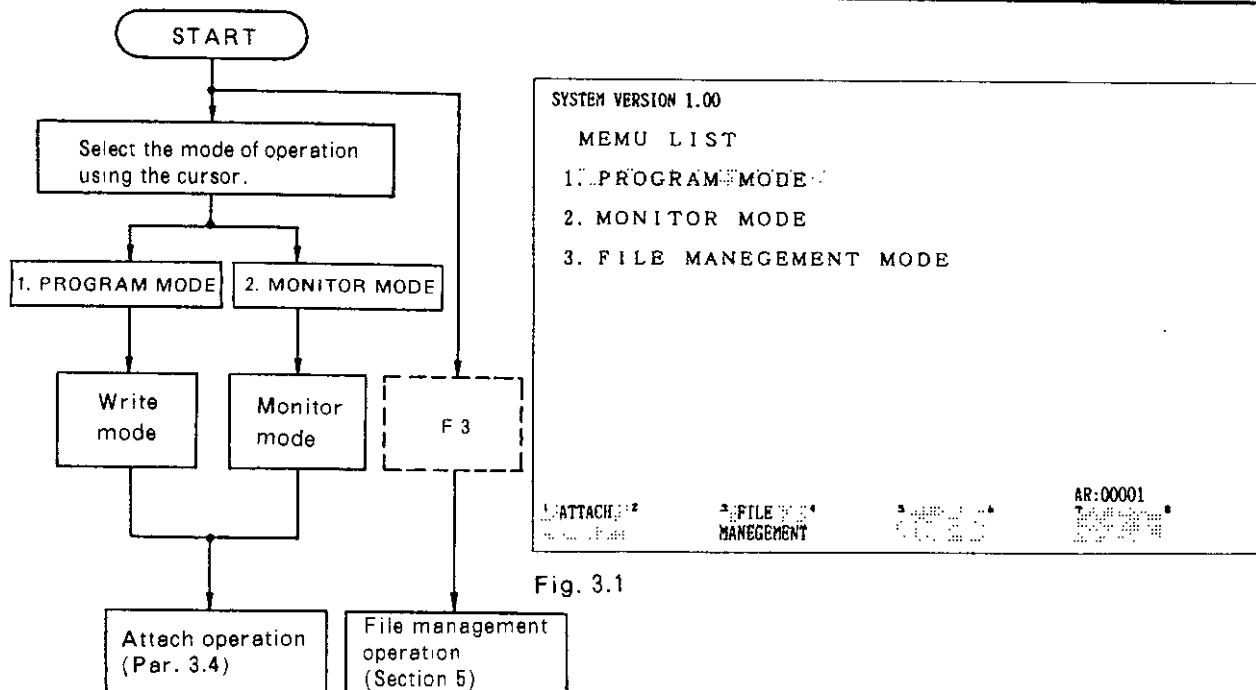

Fig. 3.1
2. To change modes after making ATTACH operations, first return to the initial display (Fig. 3.1) and select the menu again. To return the initial display, either depress **SUPER VISRY** key first and then, depress **INITIAL DISPLAY** key, or depress **SUPER VISRY** key while depressing **SHIFT** key.